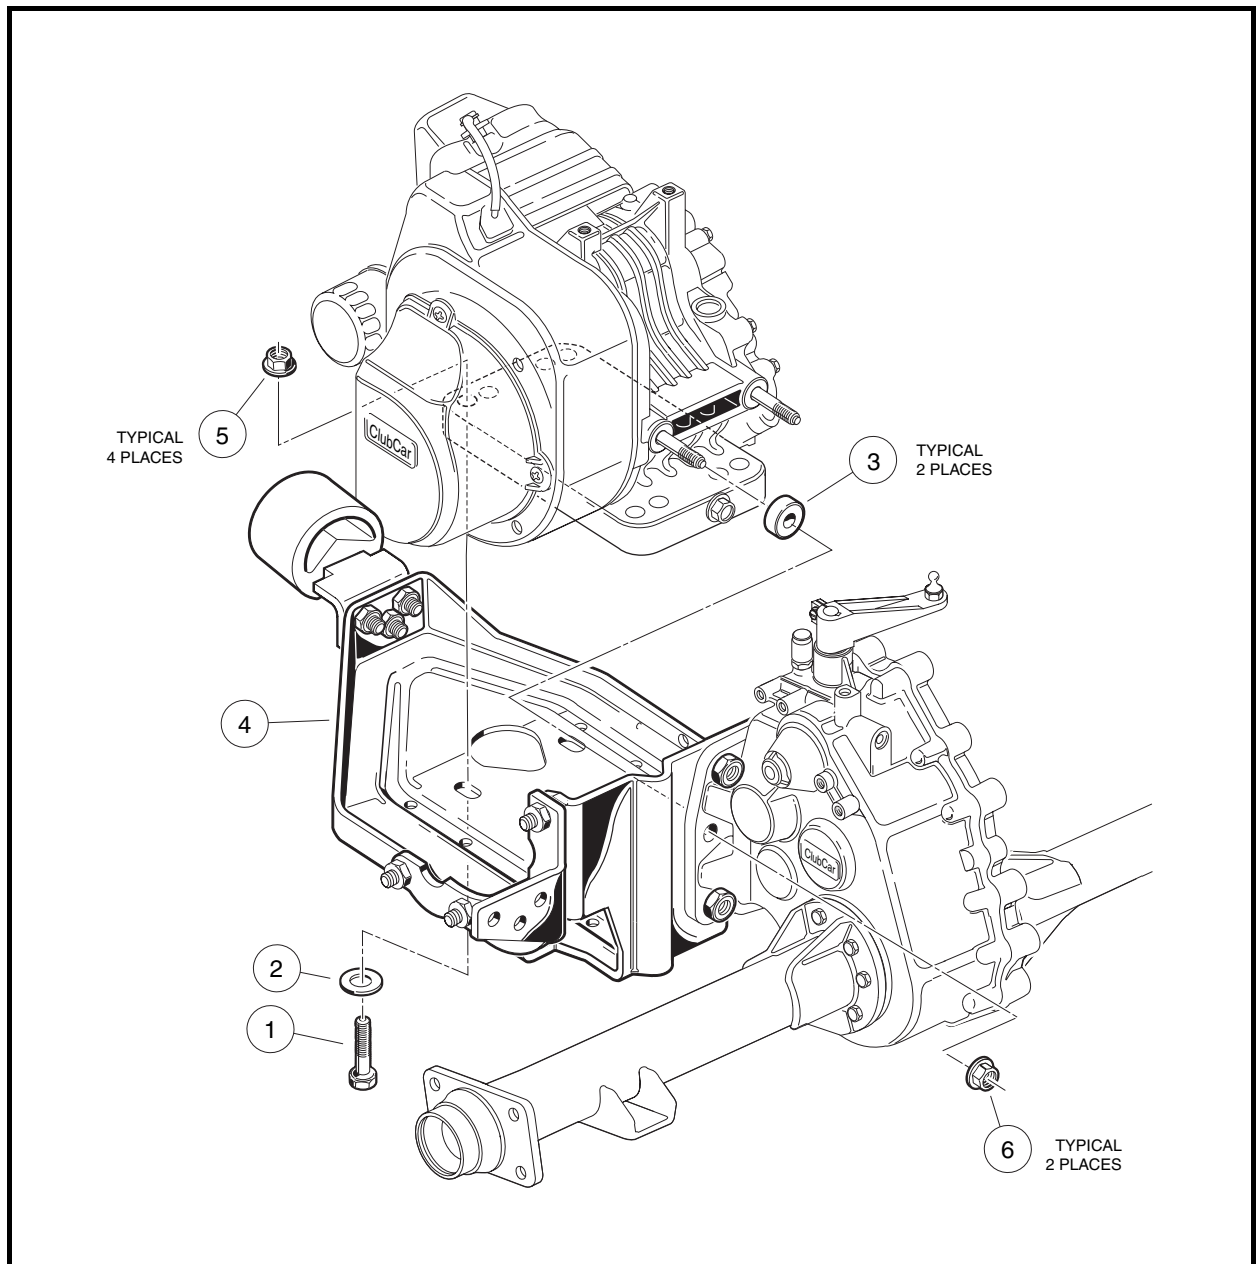

Figure 13-2 Engine Mounting Plate
5. Remove engine mounting hardware (items 1, 2, 5 and 6) (**Figure 13-2, Page 13-4**).
1. Place engine onto engine mounting plate and tighten the mounting hardware (1, 2 and 5) to 13 ft-lb (17.7 N·m). Tighten nuts (6) to 17 ft-lb (23.1 N·m) (**Figure 13-2, Page 13-4**).